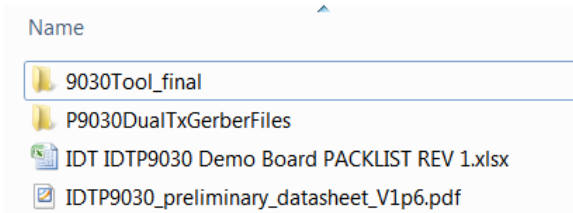

Figure 19. File folder structure on the CDROM.
4. Next, install the Wireless Power Demo Windows GUI software by executing the Setup.exe file in the folder "9036Tool\_final" (Figure 19).
To install the GUI, open the IDTP9036A-DEMO CD and run the file: setup-1.0.0.11.exe within the 9036Tool\_final folder. I.e. the path is 9036Tool\_final/setup-1.0.0.11.exe shown in figure 19 or 22. Follow the Setup Wizard instruction shown in Figure 23. This will install the GUI and driver automatically. After the installation process is complete, you may connect the evaluation board to the computer with the USB cable, via the Dongle, and use the software tool. *At this point, a little USB icon should appear at the lower right of the desktop screen. If it does not, then the machine being used should be rebooted. Now connect the JM60 dongle board into the evaluation board and then connect the 12V supply. Now plug the USB cable into the dongle board, and plug the USB cable into the PC.*